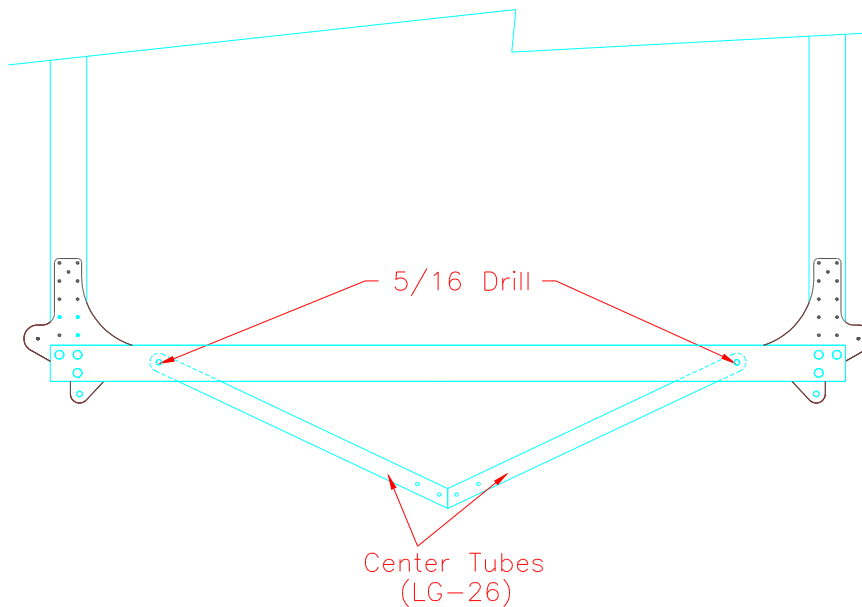

Figure 15.1.2
- 3) Drill the single hole ends of the center tubes (LG-26) out to 5/16" and fit into place as in Figure 15.1.2.